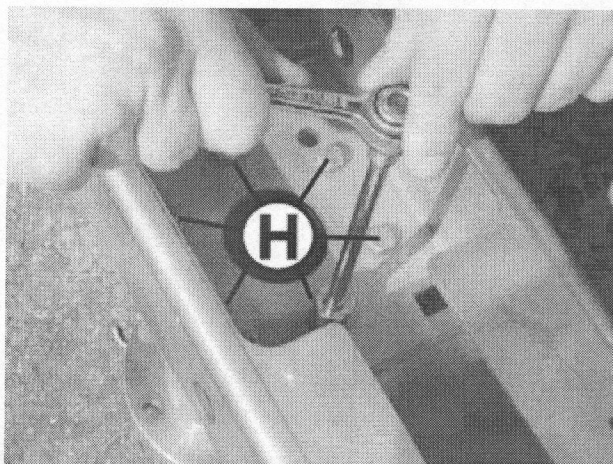

Fig. 044
10. Disconnect geared motor from running wagon by loosening the 6 screws (H) (Fig. 044).
11. Mount new geared motor on running wagon. Ensure that the special locking washers are mounted on the screws (H) again. The tightening torque is XX Nm (Fig. 044).